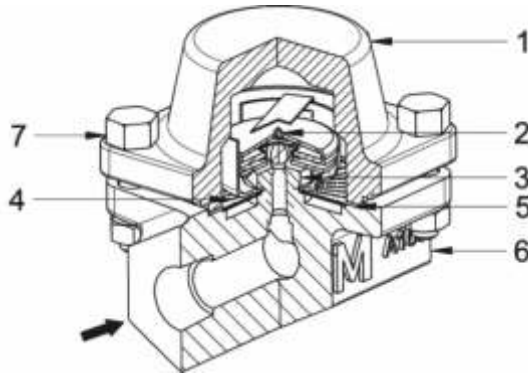

Figure 1: Forbes Marshall Tracer Line Trap / Forbes Marshall Air Vent
4.1 Operations of Forbes Marshall Tracer Line Trap / Air Vent : (Refer Figure 1)
7.4 Procedure to fit or replace thermopod and seat assembly: (Refer Figure 1)
7.5. Procedure to clean or replace the strainer screen: (Refer Figure 1)